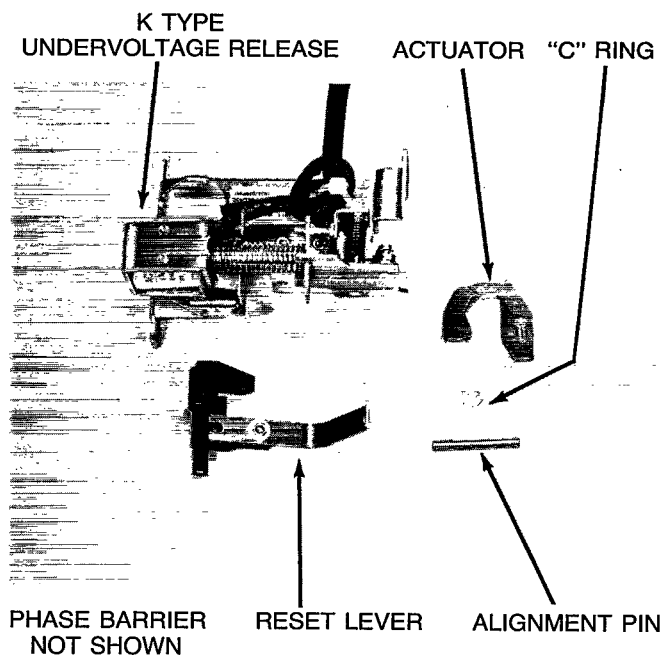
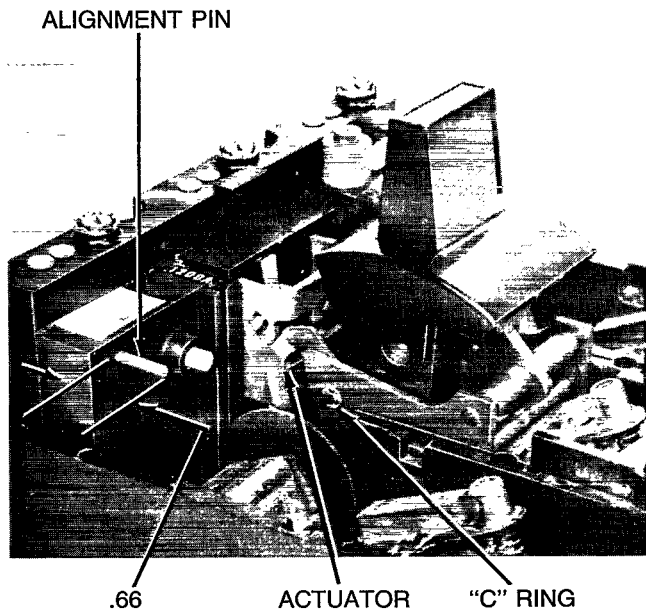
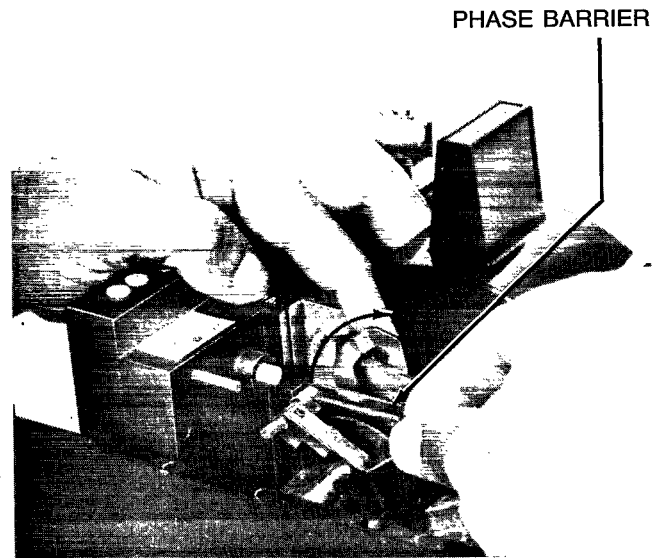

Figure 1. Handle reset undervoltage release accessory components.
Figure 2. Actuator placement on the circuit breaker mechanism side frame and location of the alignment pin.
Figure 3. Placement of the reset lever in the pivot hole of the phase barrier
The handle reset undervoltage release accessory, as shown in Figure 1, is a direct replacement, requiring minimum modification, for the "Push to Trip / Push to Reset" type undervoltage release accessory. It maintains the "Push to Trip" feature, but replaces the "Push to Reset" with direct resetting from the circuit breaker handle.
5. Assemble the undervoltage release actuator, shown in Figure 1, to the circuit breaker mechanism side frame with the pin protruding through the hole. Lock in place with the supplied C ring, as shown in Figure 2.
8. Hold the actuator forward towards the circuit breaker handle, then place the reset lever, shown in Figure 1, in the pivot hole of the phase barrier. The reset lever will move freely up and down after assembly, as illustrated in Figure 3.
7. Hold the actuator forward towards the circuit breaker handle, then place the reset lever, shown in Figure 1, in the pivot hole of the phase barrier. The reset lever will move freely up and down after assembly, as illustrated in Figure 3.
4. Assemble the undervoltage release actuator, shown in Figure 1, to the circuit breaker mechanism side frame with the pin protruding through the hole. Lock in place with the supplied C ring, as shown in Figure 2.
5. Assemble the alignment pin, shown in Figure 1, into the trip unit. Approximately 0.66 inch of the pin will protrude from the trip unit, as shown in Figure 2.